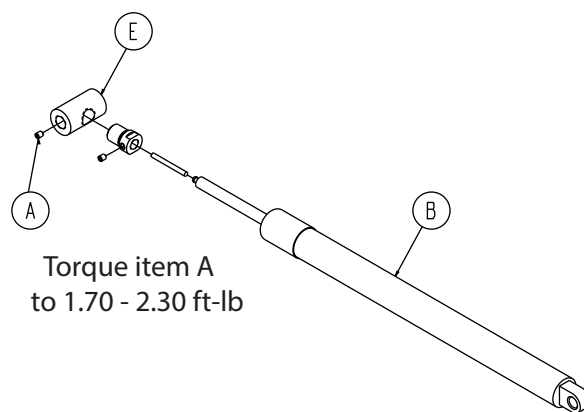

Figure 17 – Fowler cylinder components
6. Using a 3/32" hex wrench, remove the set screw (A) from the center of the gas spring yoke (E) (Figure 17). Save the screw.
8. Hold the Fowler up and pull out the bottom of the gas cylinder (B) (Figure 17).